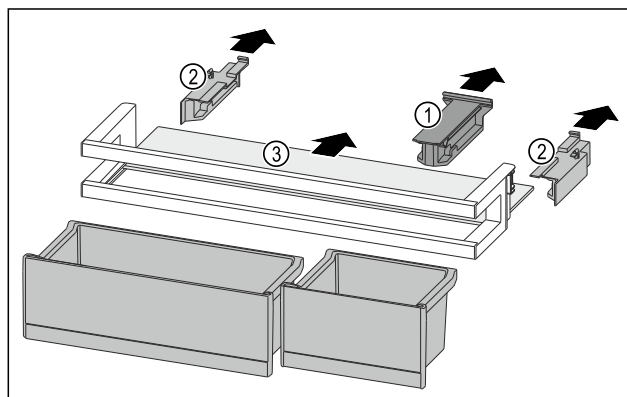

Fig. 83
- ▶ Pull off the holding part Fig. 83 (1).
- ▶ Pull off the side parts Fig. 83 (2).
- ▶ Remove the shelf Fig. 83 (3).